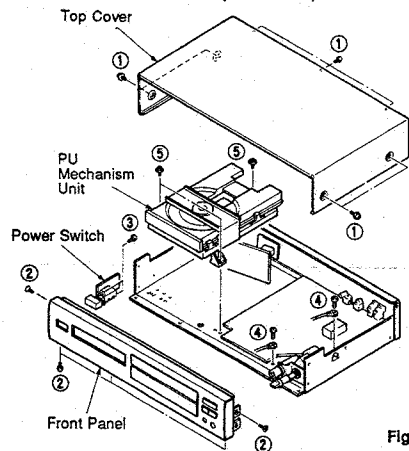

Fig. 1
- Remove 7 screws (①) in Fig. 1.
- Remove 5 screws (②) in Fig. 1.
- Remove the Power Switch by removing 2 screws (③) in Fig. 1.
- Remove 2 ground wires by removing 2 screws (④) in Fig. 1. (CDX-870 only)
- Remove 3 screws (⑤) in Fig. 1.